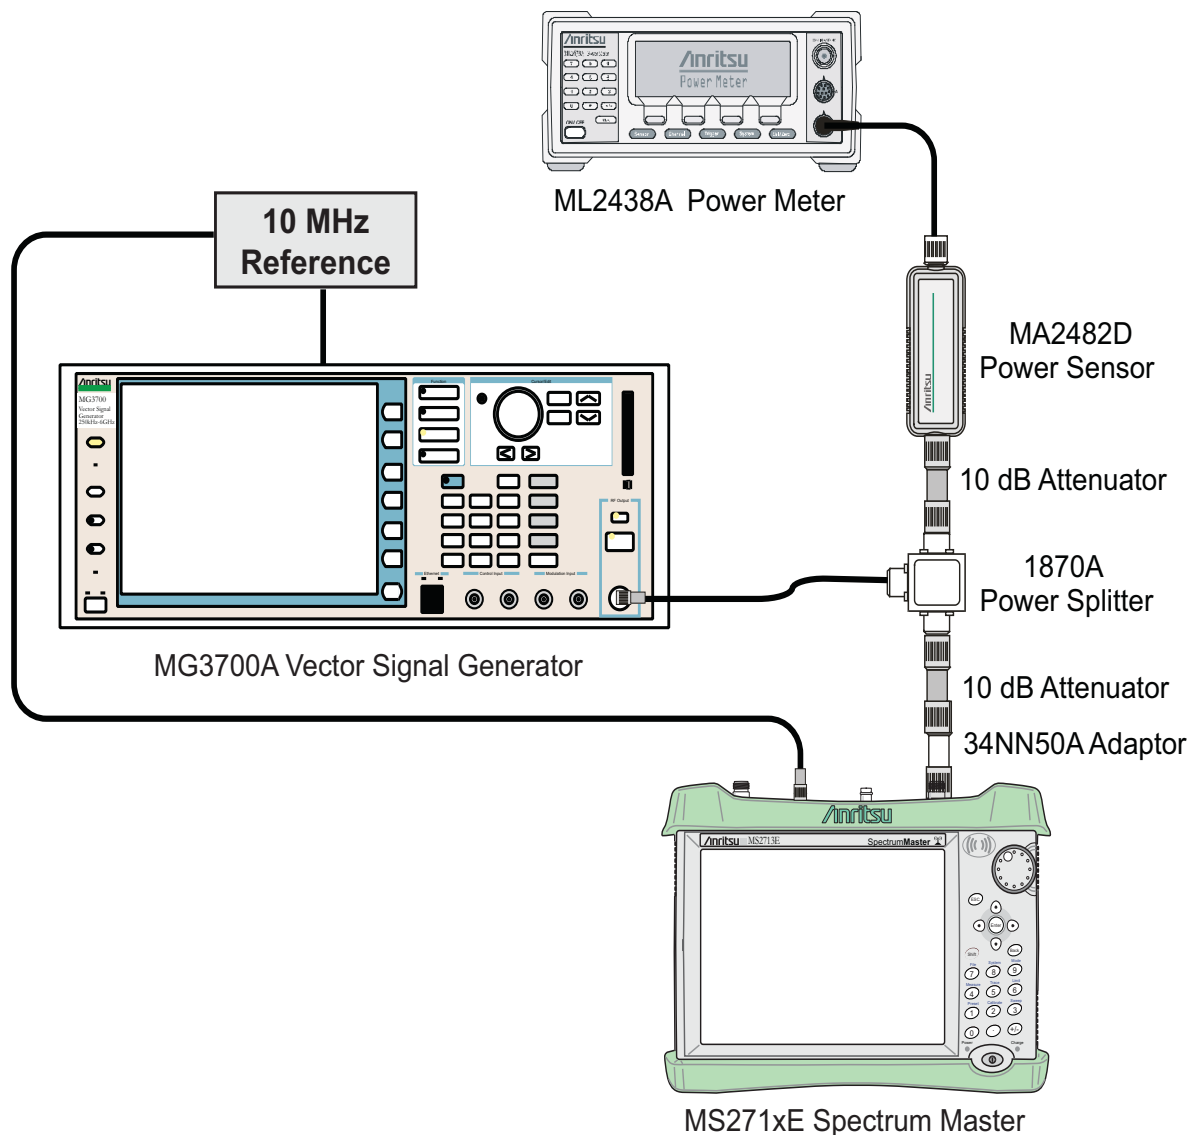

Figure 3-21. Mobile WiMAX Signal Analyzer Option Verification
4. Connect the equipment as shown in Figure 3-21.